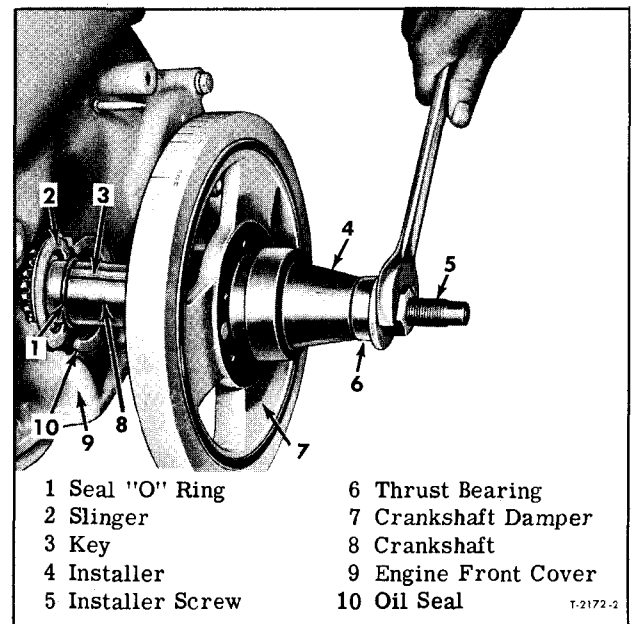

Figure 5—Installing Damper on Crankshaft with Special Tool Set
3. Align keyway in pulley with key in crankshaft, then start pulley or hub onto front end of crankshaft. Assemble special installer typically shown in figure 5, and turn nut with wrench to force pulley firmly into place on crankshaft.